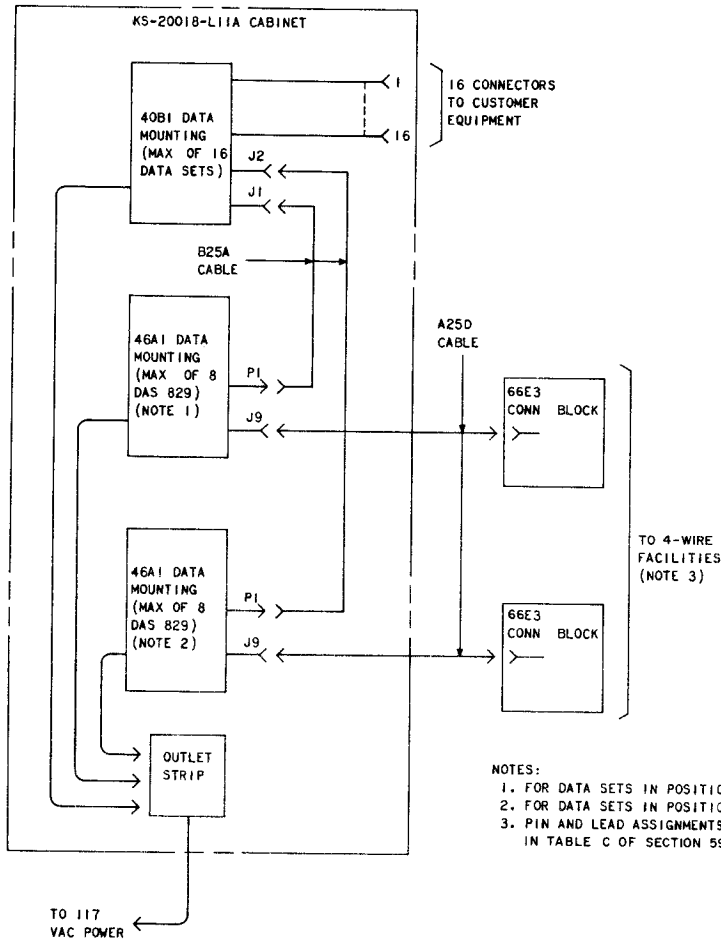

Fig. 7—Data Station Using DAS 829-Type
**3.05** The 40B1 data mounting used with DAS 829-type is shown in Fig. 7. This shows a
- Correct Fig. 7